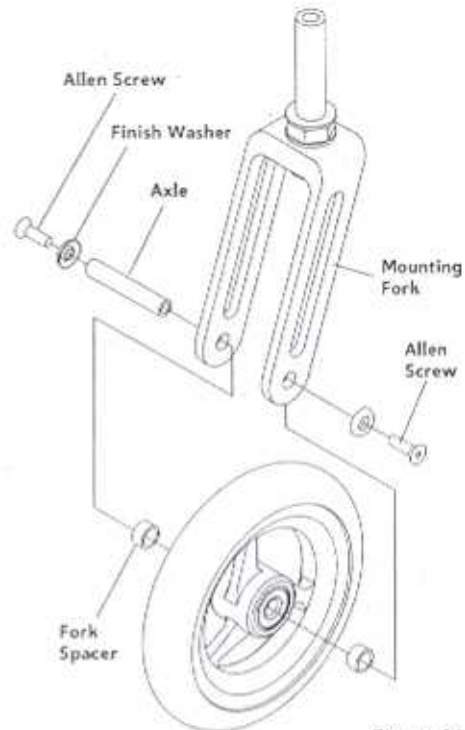

Figure 24
1. Remove the two allen screws and finish washers that secure the front caster to the mounting fork [Figure 24].